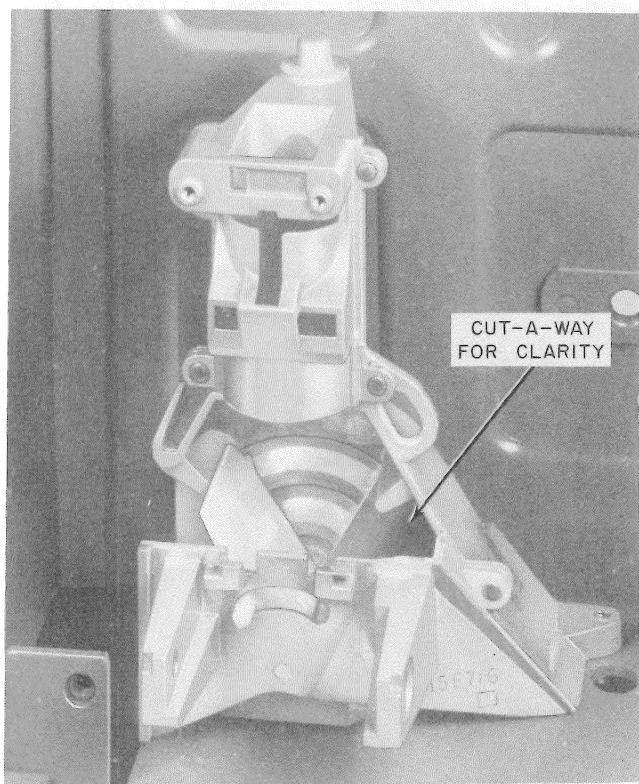

Fig. 5—Vane Installed
- (3) Insert pin (Fig. 4) through hopper housing and vane until indentations on pin snap in place in vane (Fig. 5). Ensure that vane moves freely.